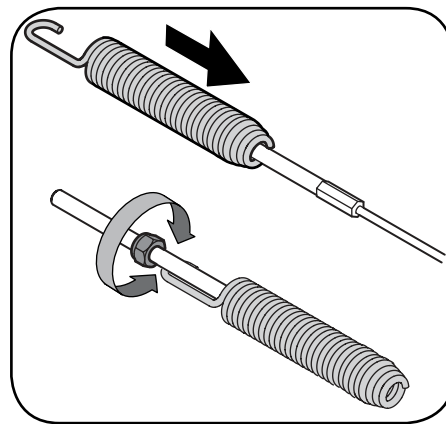

Figure 3-13
2. Slide the spring up the cable to expose the cable coupler threads and lock nut. Refer to Figure 3-13.